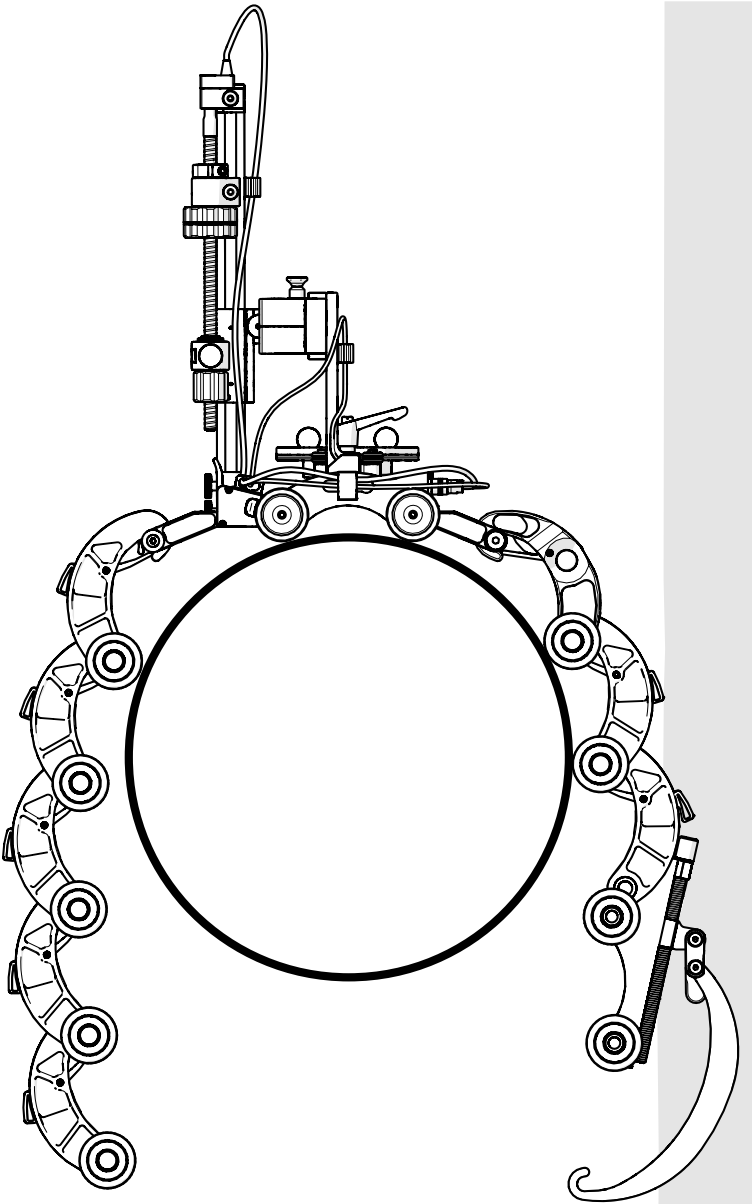

Fig. 90 - Place system on nozzle
5. Place the configured assembly around the nozzle to be inspected (*Fig. 90*).